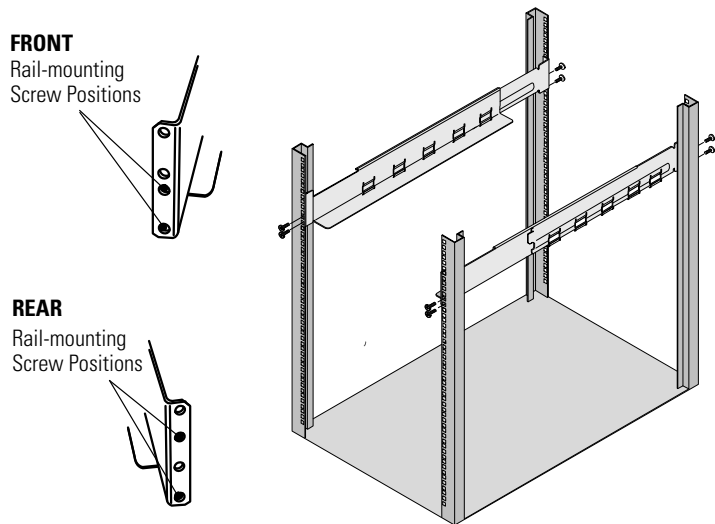

Figure 3. Attaching the Rails
3. Place the rails on the inside of the rack posts with the cabinet mounting flanges facing inside the rack. The **L** (Left) or **R** (Right) letter on the side of the rail should also face inside the rack (see Figure 3).
5. Secure each rail to the front and rear of the rack with two M6 × 12 mm screws (see Figure 3).